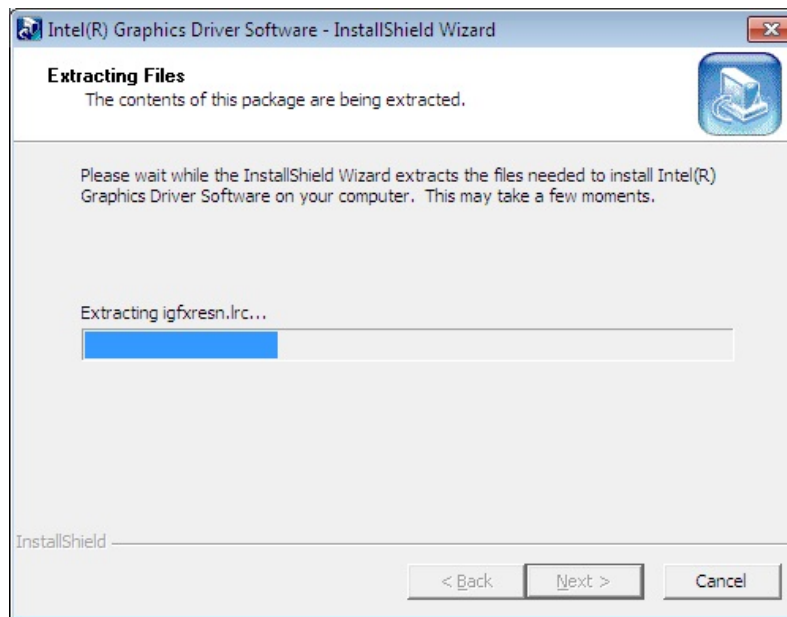

Figure 6-8: VGA Driver Screen
Step 5: The setup files are extracted as shown in **Figure 6-8**.